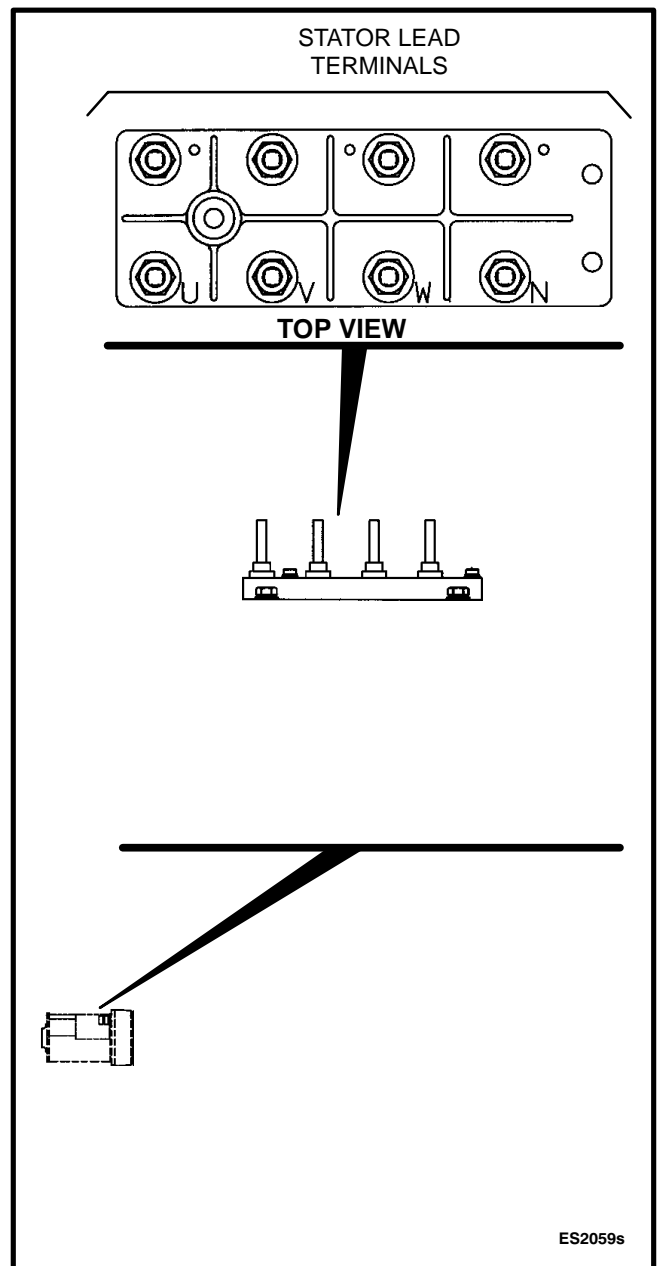

FIGURE 5-3. STATOR LEAD TERMINAL BLOCK
The 12 leads from the generator are connected to a stator lead terminal block (see Figure 5-3) that is mounted to the top of the generator housing. These 12 leads are labeled T1 through T12 and must be connected correctly before making load connections.
3. Remove the appropriate generator leads that are attached to the stator lead terminal block (see Figure 5-3) and reconnect the leads for the desired output voltage. See pages 11-4 and 11-5 for typical connections at the stator lead terminal block.